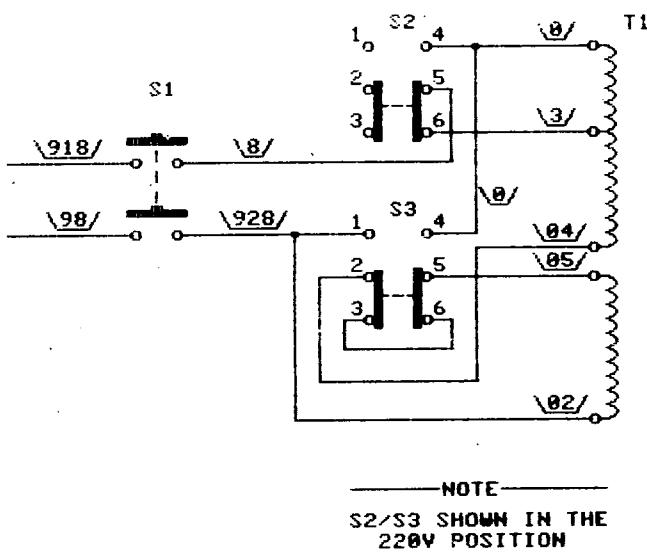

Figure C-5. Schematic 5 Changes (Change No. 13)
**Schematic 5 Changes.** Change the wiring on the voltage selector switches as shown in Figure C-5.